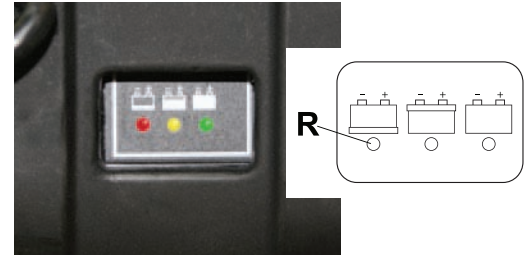

Fig 5
- Let the batteries charge until the “Green” LED comes on, then remove the plug and wind the battery charging around the cable holder (Fig 5).